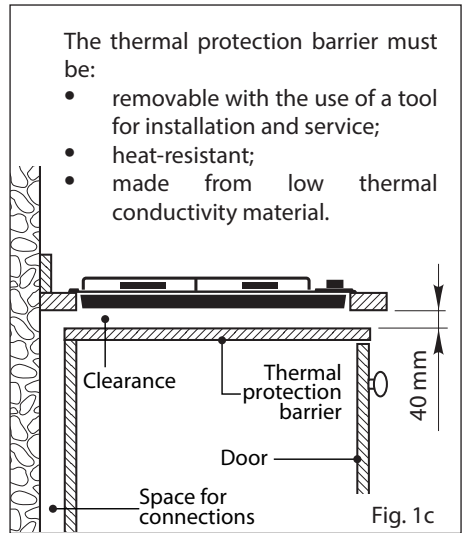

Fig. 1c
- If the cooktop is installed directly above an oven (which does not have a cooling fan motor) or if its base is accessible through a cupboard or drawer space after installation, a thermal protection barrier must be installed below the base of the cooktop as indicated in fig. 1c.